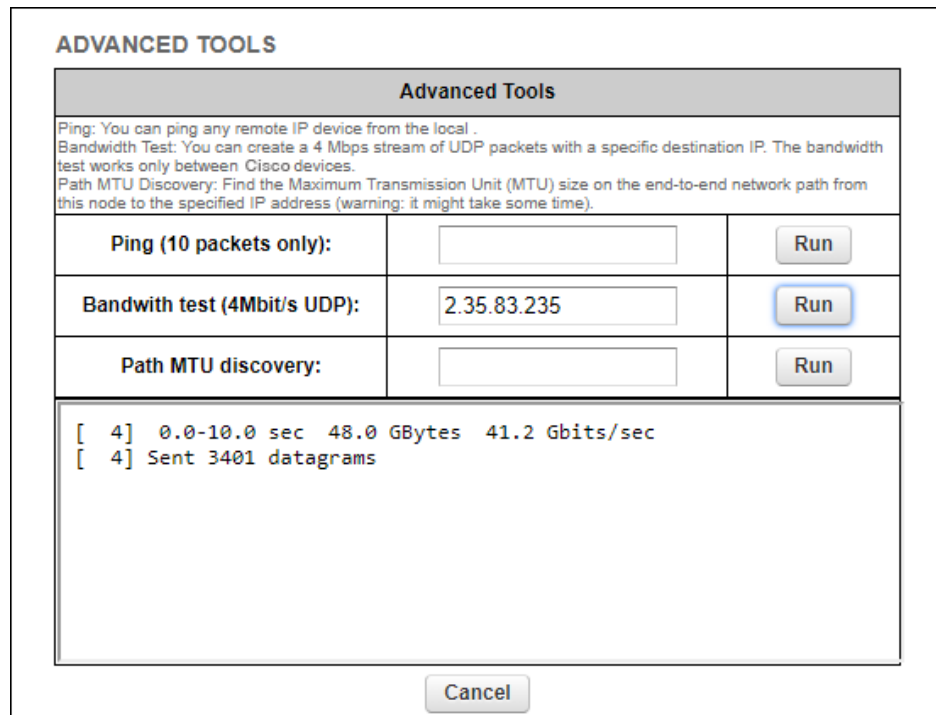

Figure 25. Advanced Tools window (Bandwidth test tool)
2. Enter the IP address of the other unit in the **Bandwidth test (4Mbit/s UDP):** field (Figure 25 (page 71)).